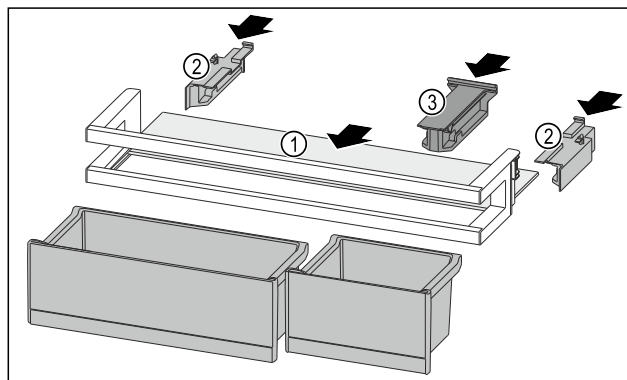

Fig. 254
- Push the shelf Fig. 254 (1) into the side recesses.
- Insert the side parts Fig. 254 (2).
- Insert the holding part Fig. 254 (3).